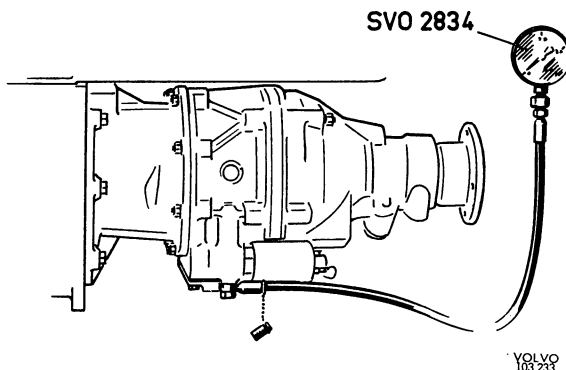

Fig. 4-35. Checking oil pressure
1. Remove the plug under the operating valve and connect the pressure gauge SVO 2834, see Fig. 4-35.